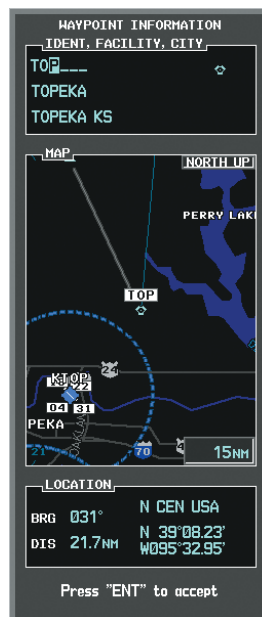

Figure 5-106 Entering V4 Entry Point
- c) Turn the small **FMS** Knob to display the Waypoint Information Window. Enter the desired entry point for V4, Topeka VOR (TOP), as shown in Figure 5-106.